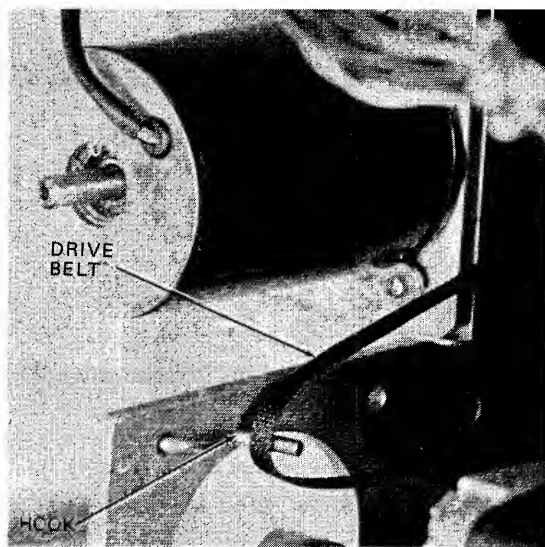

FIGURE 15 RIGHT DRIVE BELT REMOVAL
- b. Remove drive belt from right hand motor pulley and place it on hook provided. Reference Figure 15.
- i. To rejoin units reverse procedure. To reinstall right hand drive spindle belt, place belt on spindle pulley and hook provided. Reference Figure 15.